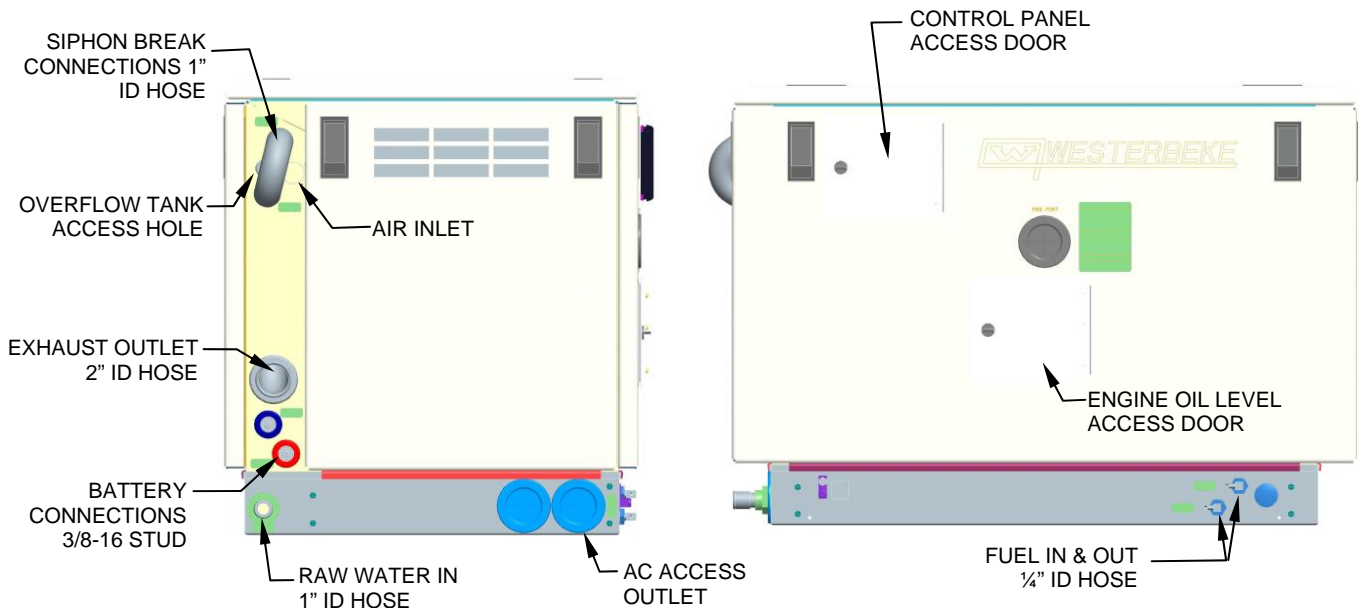

Fig. 5
- Install and connect the provided hoses and cables between the engine/generator and appropriate bulkhead fittings located on the base and rear frame sections. Use the following checklist to ensure all internal connections are made. See Fig. 5. **Note:** The molded exhaust hose may need to be trimmed depending on the particular generator model.